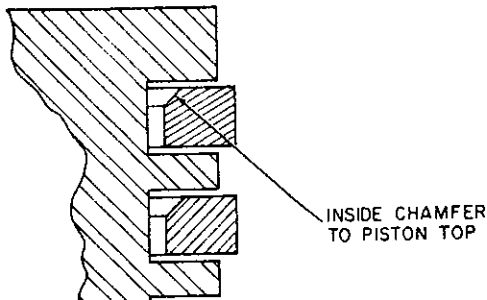

Figure 26
(1) If used, chrome plated piston should be located in top groove (nearest closed end of piston).
(2) If used, beveled edge of ring should be toward top of piston. (See Figure 26).